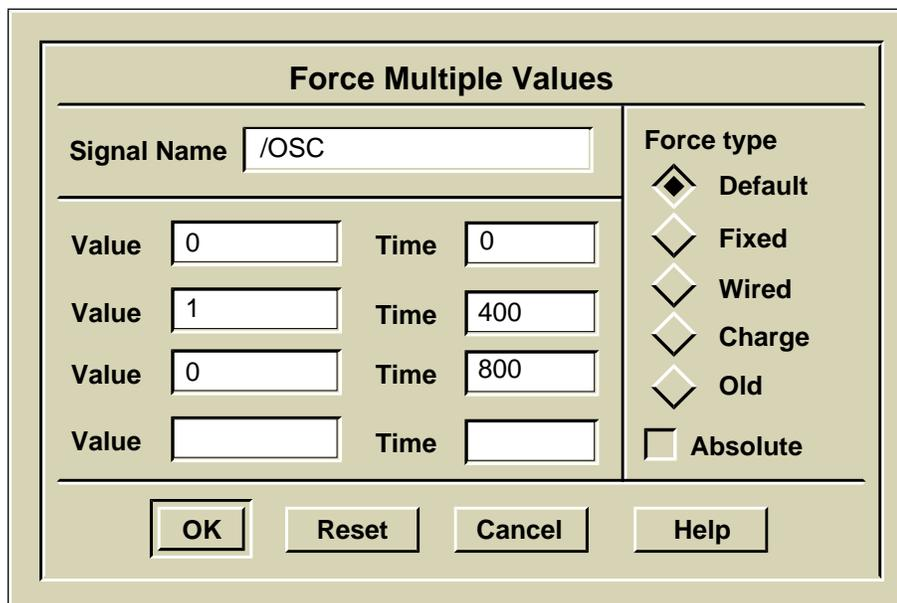

Figure 3-11. Force Multiple Values Dialog Box
- c. Fill in the dialog box as shown in Figure 3-11.